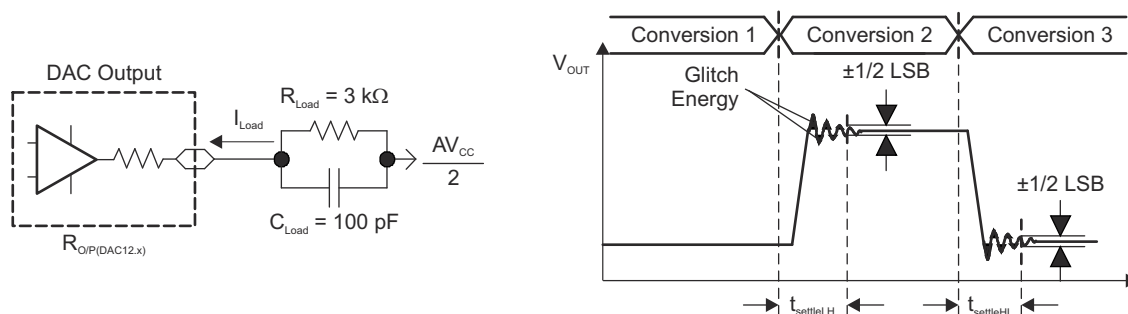
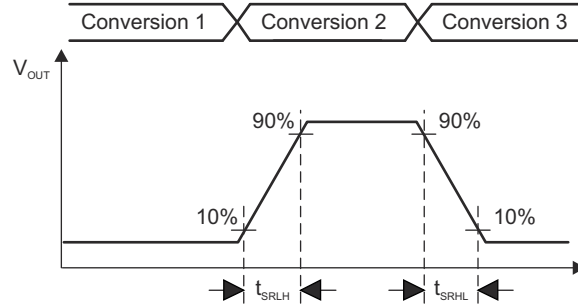

图 8-19. Settling Time and Glitch Energy Testing
图 8-20. Slew Rate Testing
V_{REF} = V_{CC}, DAC12IR = 1 (see 图 8-19 and 图 8-20), over recommended ranges of supply voltage and operating free-air temperature (unless otherwise noted)
(1) R_{Load} and C_{Load} connected to AV_{SS} (not AV_{CC}/2) in 图 8-19.
(2) Slew rate applies to output voltage steps ≥200 mV.